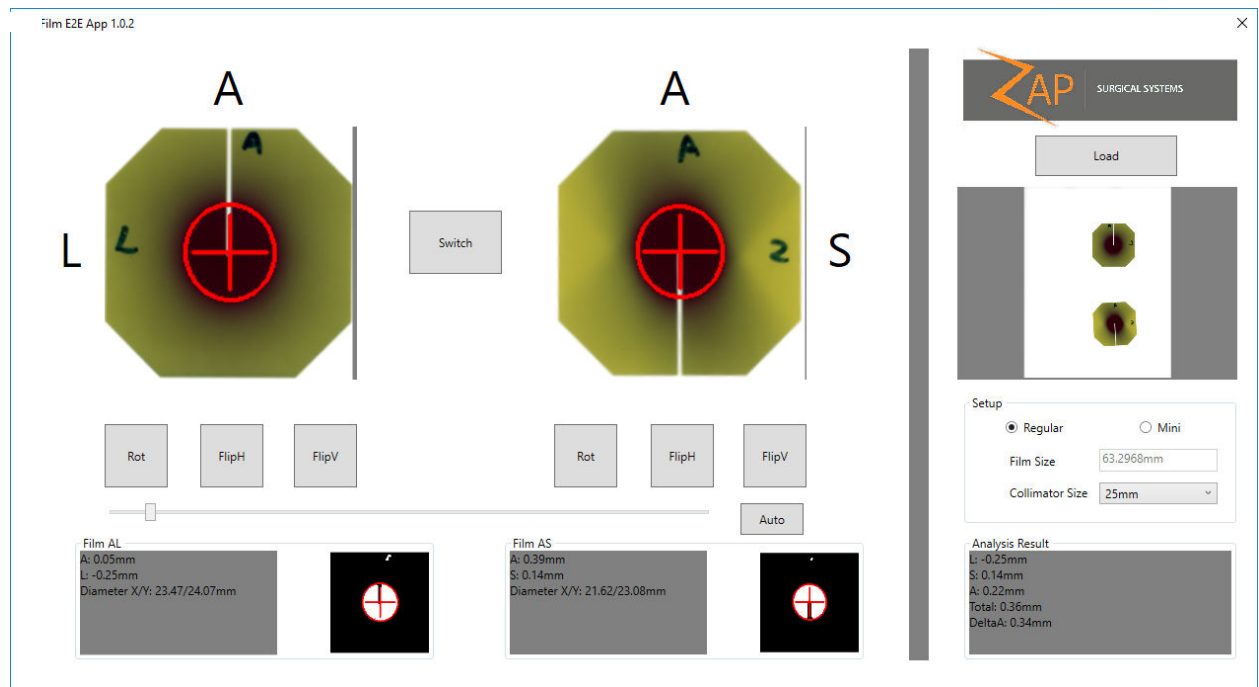

Figure 7-4 Film analysis software.
Users can choose commercially available film analysis software for the End-to-End test results analysis. The optional film analysis software provided by Zap can be used to calculate End-to-End targeting errors (see Figure 7-4). The steps needed to complete film analysis for are as follows:
2. Reach the absolute smallest value of the dose contour by dragging along the slider bar to the left of the **Auto** button (see Figure 7-4). The contour is smallest on the left side and largest on the right side.